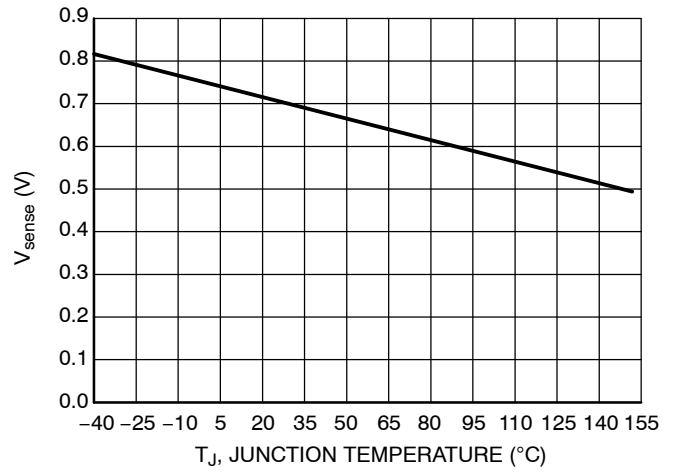

Figure 2. V_{sense} vs. Junction Temperature
- a. $R_{ext} = V_{sense} \text{ (see Figure 2) } / I_{LED}$